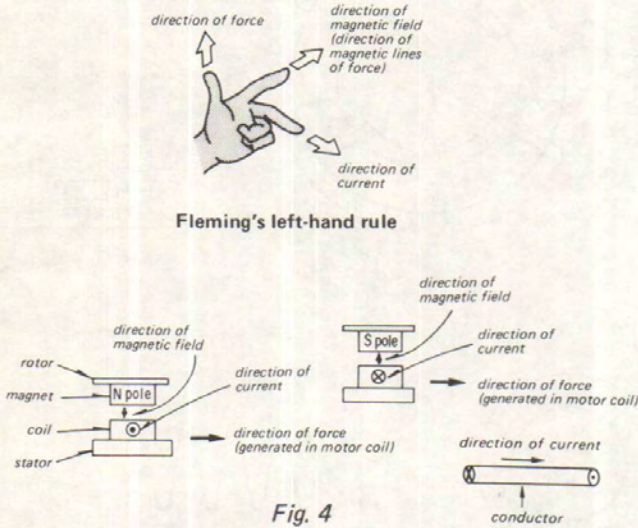

Fig. 4
4). Generation of Rotational Force (See Fig. 4)